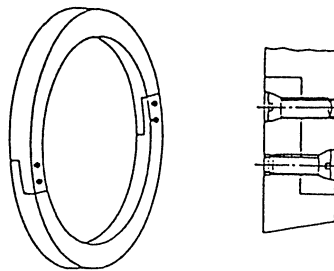

Figure 10 Oil Ring
(2) Oil ring inspection (see Figure 10)